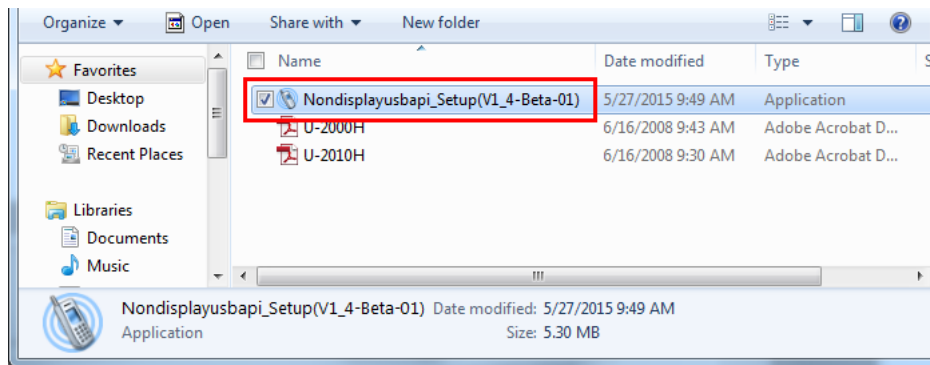

Figure 3-13: Handset Driver Folder
Step 3: Locate the setup file in the driver folder (**Figure 3-13**), and double click it to install the handset driver.
Step 5: Locate the setup files in the driver folders (**Figure 3-13**), which can be downloaded from IEI Resource download Center, and install the drivers for SCR, MSR and fingerprint reader.